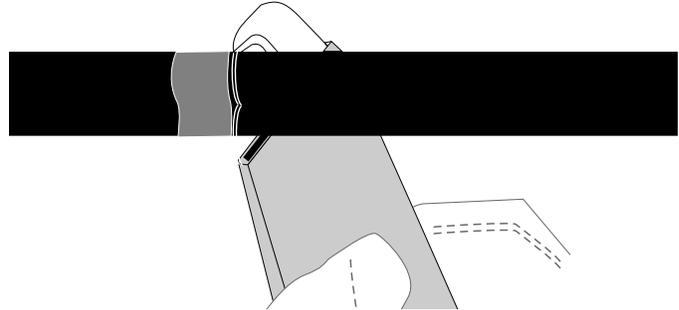

Figure 3
5.3 Using a hook blade knife, make a ring cut through the oversheath at the wrap of tape (Figure 3). *Because the composite drop cable is oval, the ring cut may not go through the sheath in all areas. Do NOT cut deeper than the oversheath jacketing.*